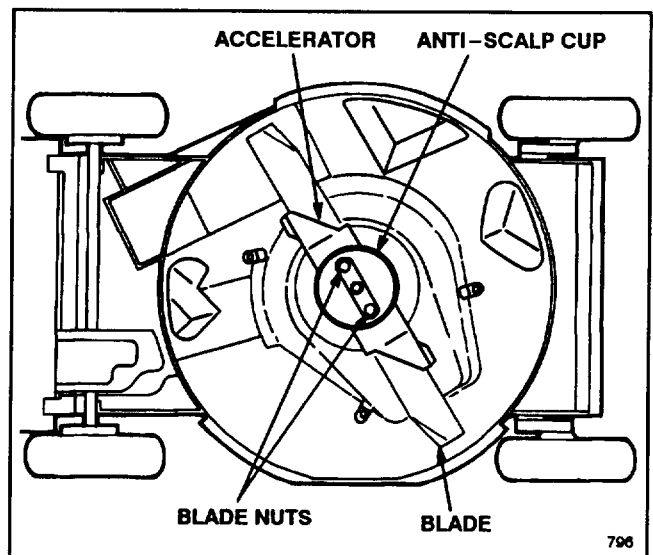

Figure 32
4. Remove (2) blade nuts, anti-scalp cup, accelerator, and blade (Fig. 32).